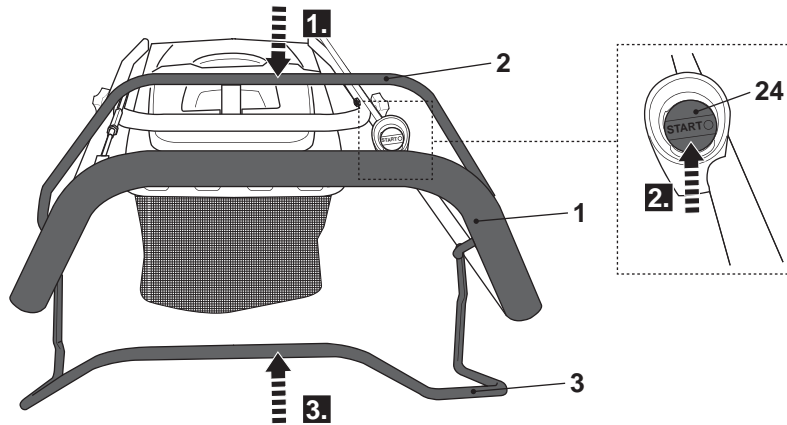

Fig. 17
- Stand behind the handle (1).
- Pull the brake bar (2) against the handle (1) and hold it in position with one hand (Fig. 17, step 1).
- Press the START button (24). Press it for several times, if necessary, until engine starts (Fig. 17, step 2).
- When you are ready to mow, hold the handle (1), keep the brake bar (2) squeezed and then pull the drive bar (3) towards the handle (1) (Fig. 17, step 3). The product starts moving forward and begins mowing.